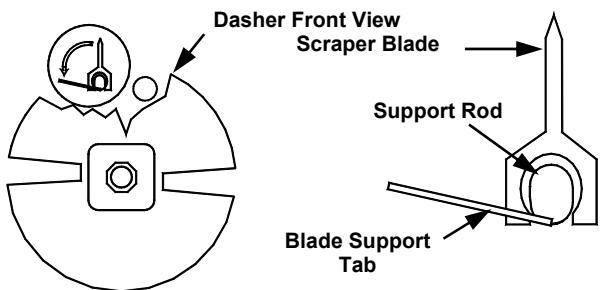
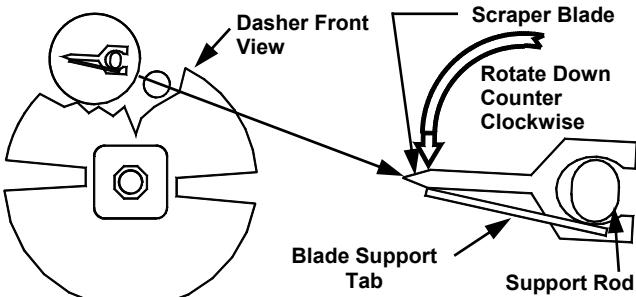

Fig. 18
Fig. 19
- d. Install the scraper blades onto the dasher assembly by holding the blades perpendicular to the tabs (Fig. 18) and then snapping them over the flat area of the support rod. Then rotate the blades downward in a counterclockwise direction as viewed from the front of the dasher (Fig. 19). **BE CERTAIN THAT THE SCRAPER BLADES REST UPON THE DASHER TABS.**